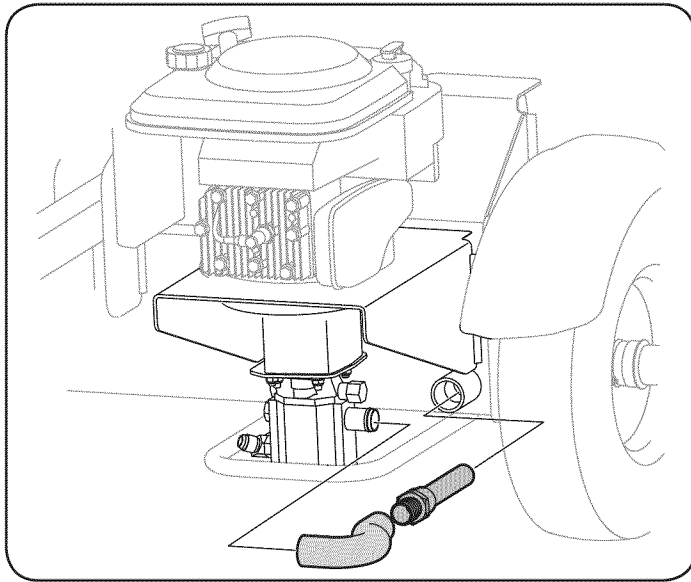

Figure 17
2. Carefully unthread the inlet filter and clean it with penetrating oil. See Figure 17.